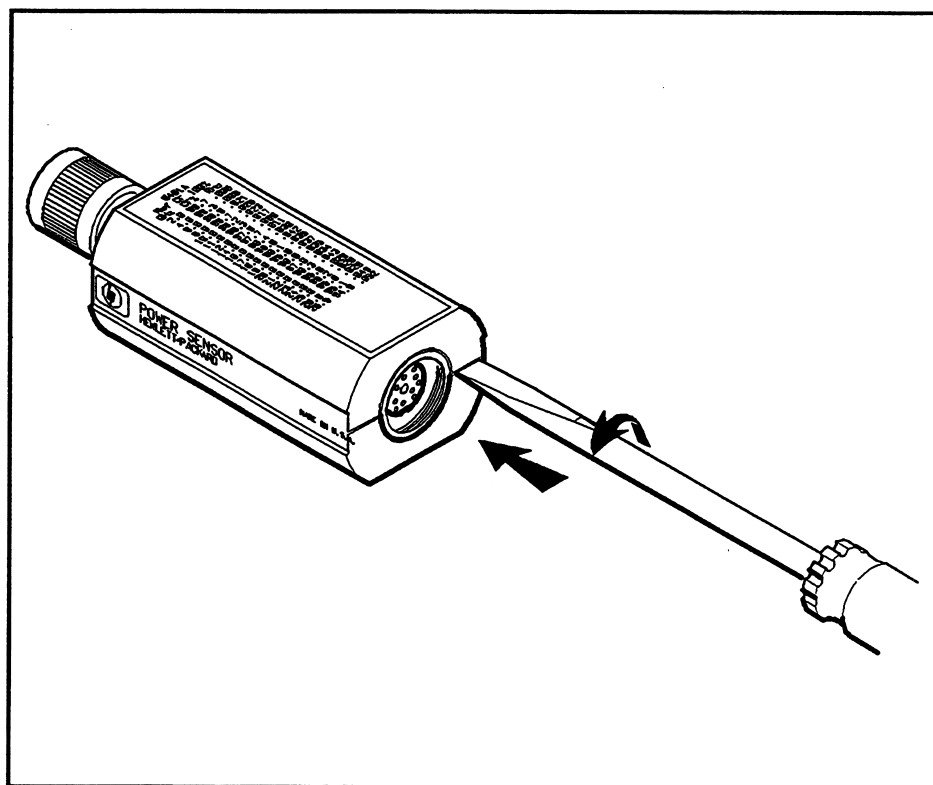

Figure 9. Removing the Power Sensor's Cover
1. Insert the blade of a large screwdriver between the two-piece plastic shell at the rear of the Power Sensor. Gently pry the sections apart. (See figure 9.)